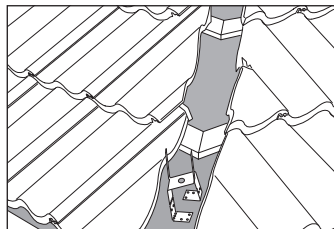

Fig. 3 – Lay tile to hip with raking cut
- 3 Tile roof leaving a gap of 80mm between raking cut tiles laid adjacent to hip rafter (Fig. 3). Ensure all raking cut tiles and slates